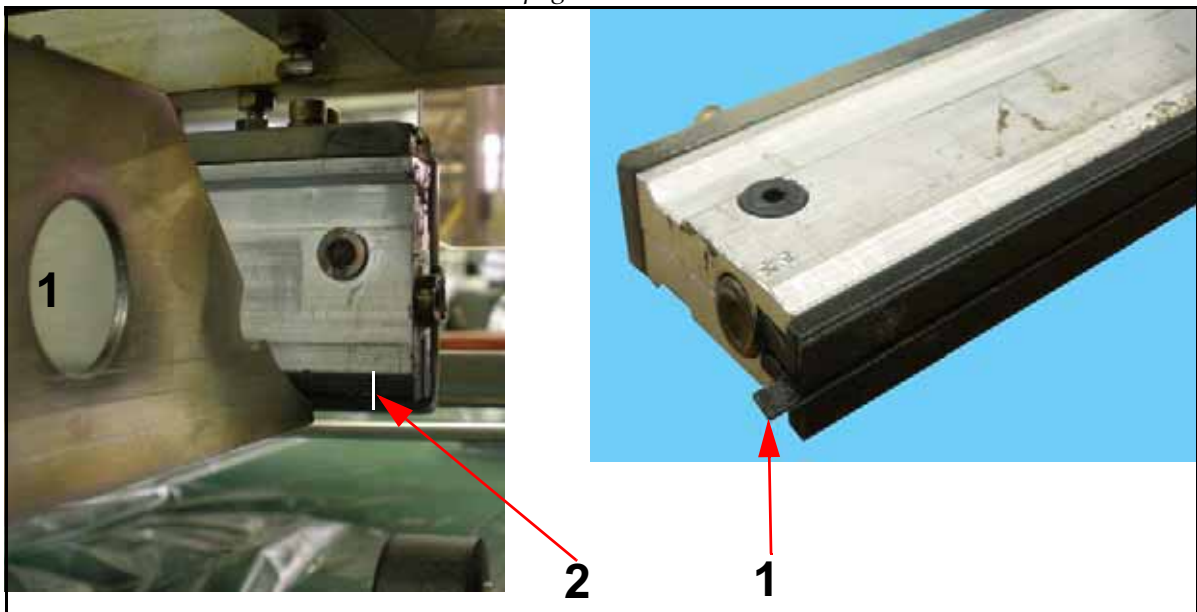

Figure 7-25. Blade Mating
- Make sure that tab (1 in Figure 7-25) in seal bar blade mates with slot (2) in perpendicular bar.